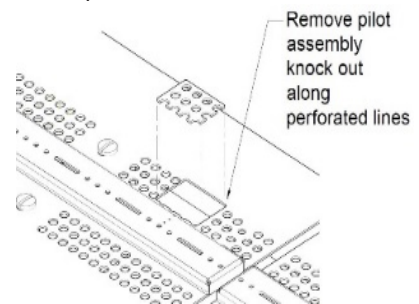

FIGURE 64
- 10) Before replacing the removed burner top from **Step 4**, locate the perforated rectangular section in the pan. Gently remove this section along the perforations using a screwdriver or pliers (**Figure 64**).